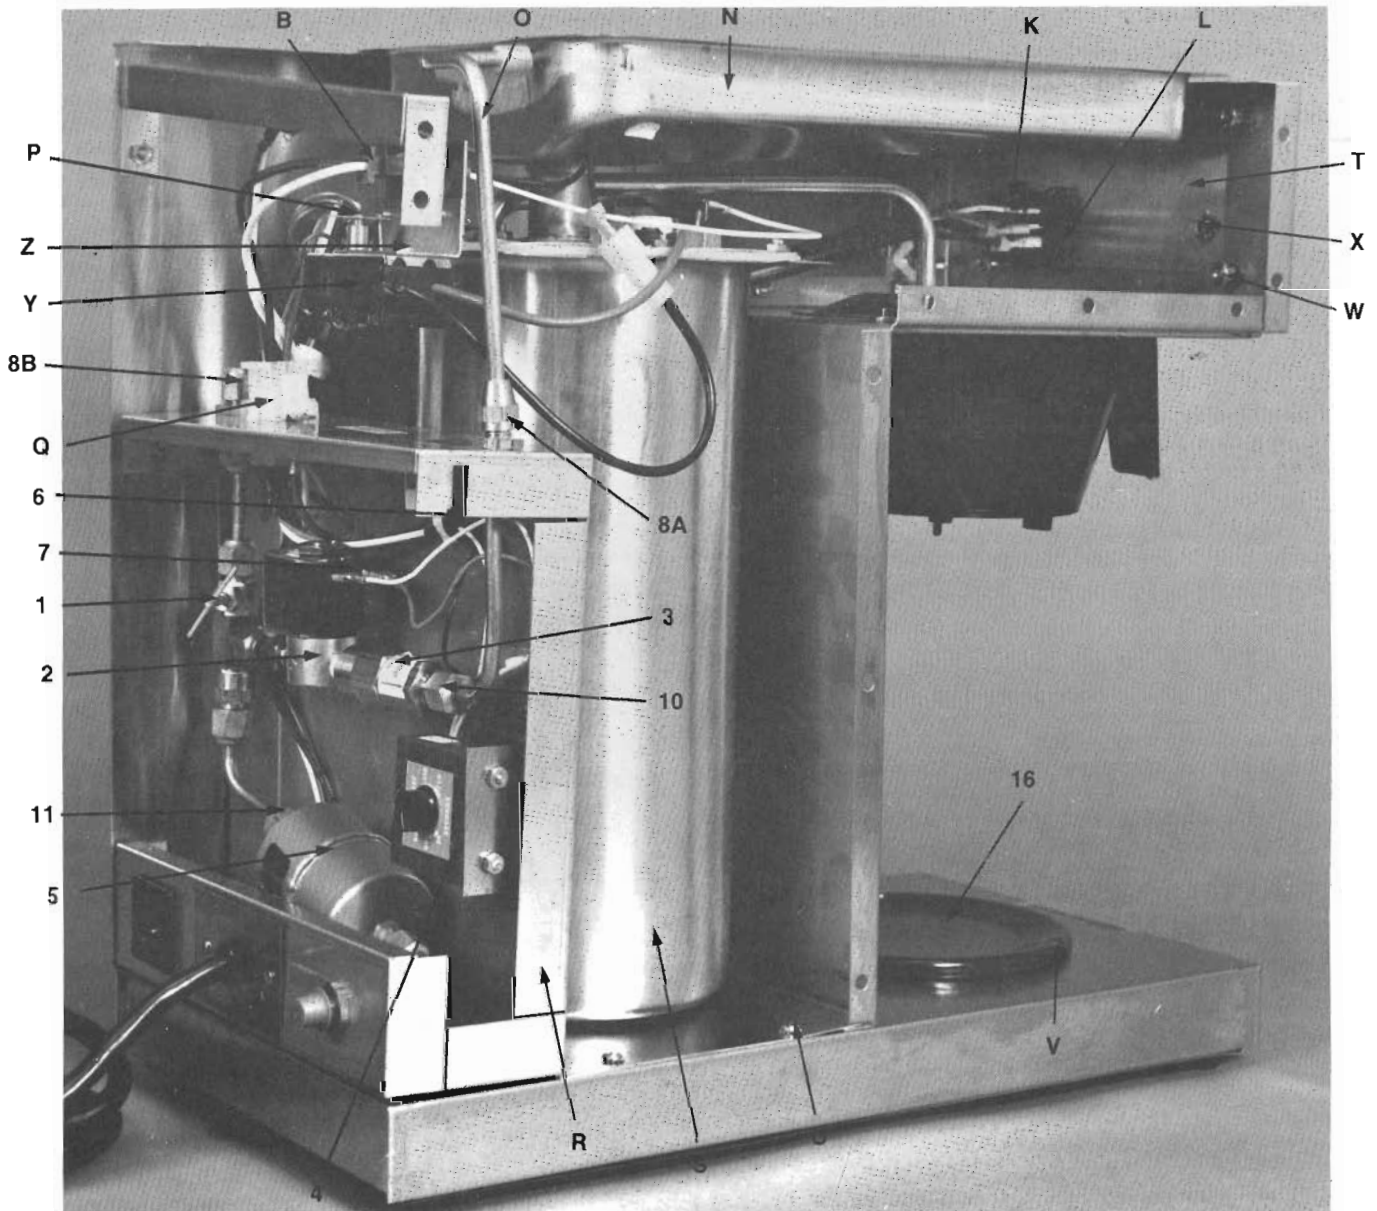
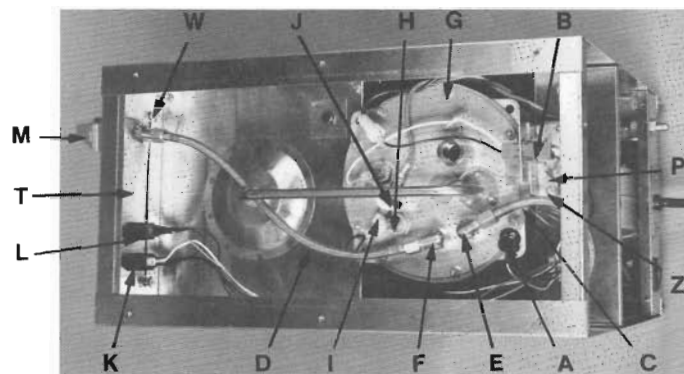

FIGURE 2
FIGURE 4
1. Remove brewer lid. For models with upper warmer, disconnect electrical plug (Fig. 4 A) from upper warmer plate.
2. Remove pour in basin assy (Fig. 2 N).
4. Remove knurled nuts (Fig. 2 W) on switch plate.
2. Remove back panel. Unplug main wiring harness (Fig. 2 O)
5. Remove the 2 knurled screws & the 4 screws (Fig. 2 U) located on base of housing.
2. Remove brewer lid. For models with upper warmer disconnect electrical plug (Fig. 4 A) from upper warmer.
3. Unscrew inlet/discharge tube (Fig. 2 O) from upper right hand side of automatic control panel. Then remove inlet/discharge tube from receiving pan.
4. Remove pour in basin assy (Fig. 2 N).
1. Loosen 2 knurled nuts on automatic control panel (Fig. 2 R). Remove automatic control panel & replace with pour-over control panel.
2. Disconnect black & blue wires on start switch (Fig. 4 K). Refasten black & blue wires with a line splice connector.
1. Remove plug (Fig. 2 X) in switch panel to provide opening for faucet.
3. Remove tank assembly by unscrewing sprayhead & sprayhead nut (Fig. 1 No. 12). Unplug polarized plug (Fig. 4 B) & lift tank assembly out of brewer. Place faucet tank assembly in brewer. Reconnect polarized plug, sprayhead nut & sprayhead.
4. Connect the 12" flex tubing to faucet & to the hot water outlet (Fig. 4 F) on tank lid.
5. Connect the 10" flex tubing to cold water inlet on tank lid (Fig. 4 E) & to the top left hand fitting (Fig. 2 No. 8 B) on automatic control panel.
8. Adjust water flow to water faucet by adjusting needle valve (Fig. 2 No. 1). (Turn counter-clockwise to open.)